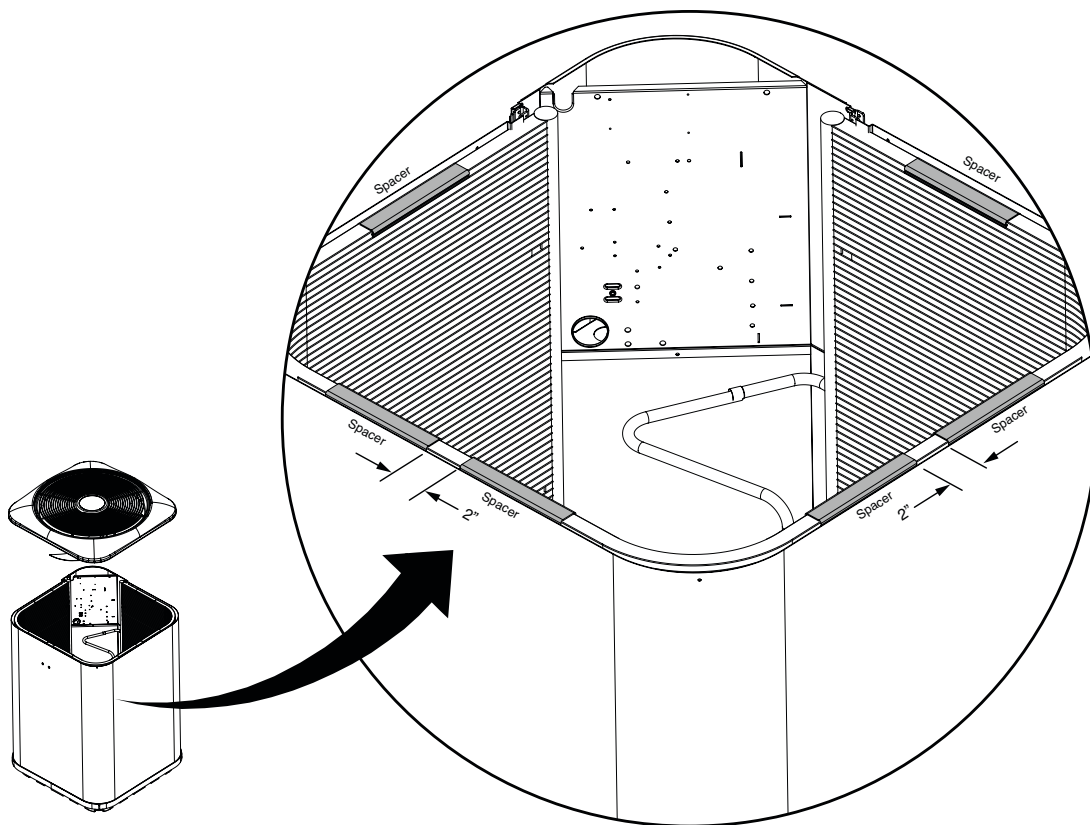
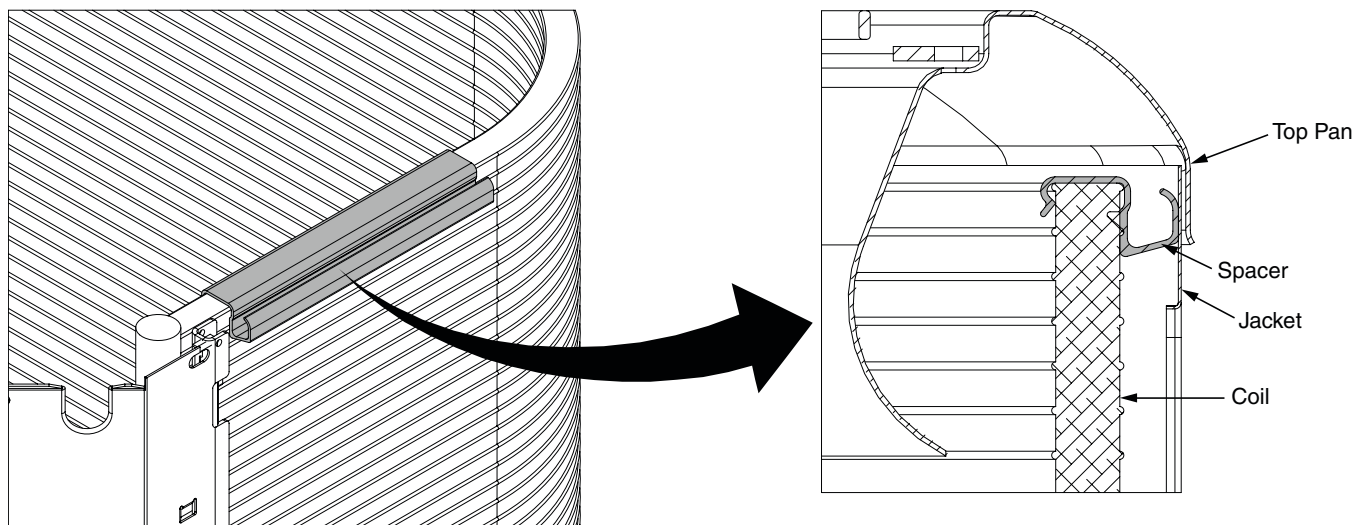

Figure 1. Spacer Kit Locations for Large Footprint Units
Figure 2. Spacer Kit - Detailed View
3. **For large footprint unit:** Place one long spacer on each short flat face of the coil and two long spacers separated by 2" on each long flat face of the coil. See Figure 1 and Figure 2.